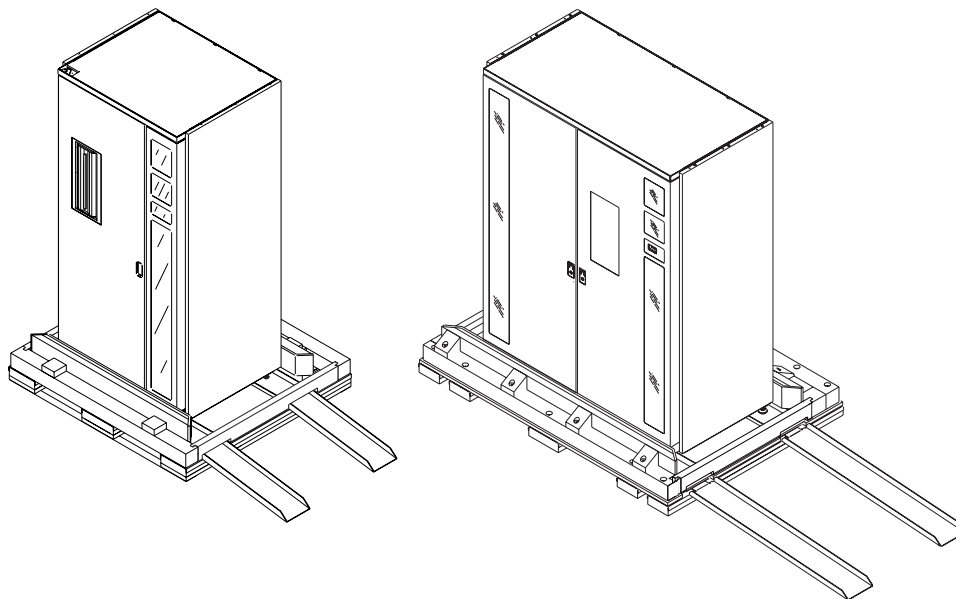

Figure 4-10. Preparing the ramp
3. Place the two ramp extensions in the slots provided at the edge of the pallet (see Figure 4-10). The ramp can be set up on either the right side of the pallet.